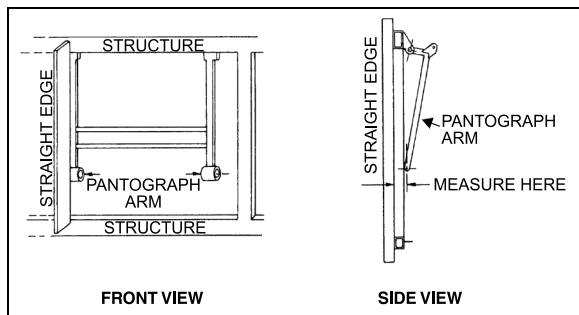

FIGURE 79: PANTOGRAPH DOOR ADJUSTMENT 18062
3. Install another piece of 2x4 between the first piece and the bottom of the pivot of the lowest (or shortest) pantograph arm, (Figure 79).